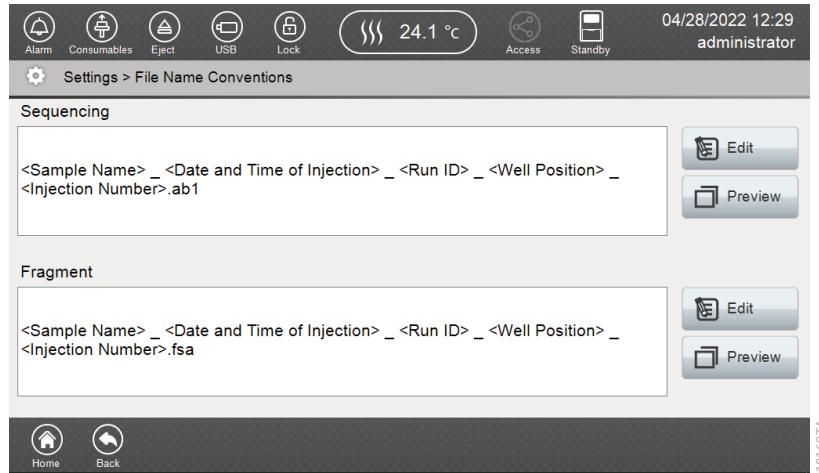

Figure 169. 'File Name Conventions' screen.
- Settings for Sequencing and Fragment analyses are displayed (Figure 169). Attributes enclosed within <> are separated by delimiters (_). Users can preview or edit file name conventions on this screen.
3. Select **Edit** to change File Name Conventions (Figure 169).